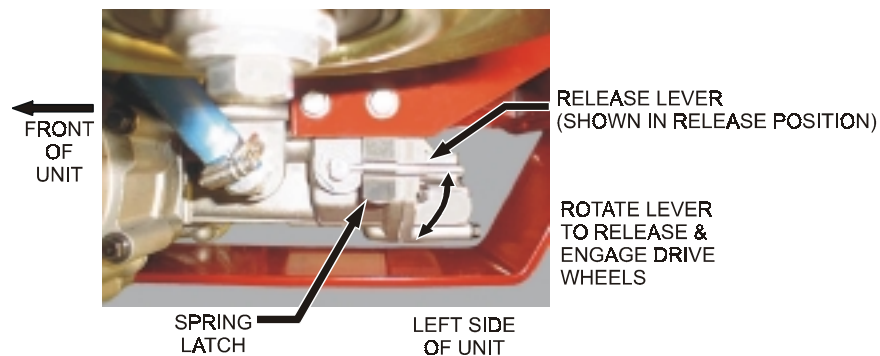

FIG. 3
- 3.7.1 Rotate drive wheel release lever into position shown in Figure 3 to release drive system (Refer to Section 4.11). Roll tractor to cutter deck and cutter deck support aligning them so the tractor is positioned for ease of mounting the deck support.
4.11 Drive Wheel Release Lever: Located under the lower left rear corner of the engine deck (See Figure 3). The drive wheel release lever is used to release the hydrostatic drive system to allow machine to be pushed while the engine is not running. Rotate lever 1/8 turn counter-clockwise until caught under spring latch to release drive system. Pull spring latch out far enough to allow lever to rotate 1/8 turn clockwise to engage drive system.